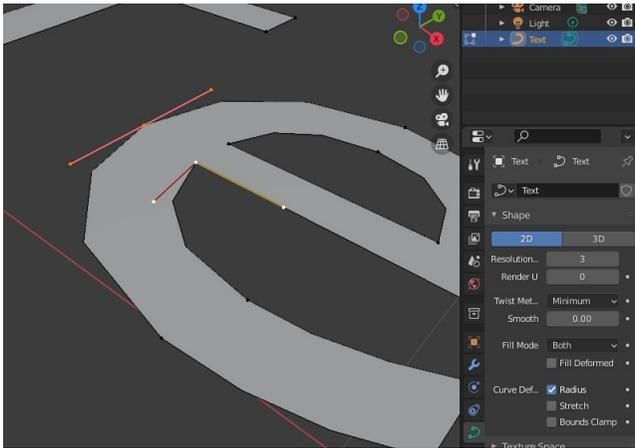

Figure 3-1 Editing Curves
1. Start Blender and delete the default cube. then select **Add ▸ Text** which will create a Text object with the word "Text", notice that the icon in the Outliner Editor is a letter "a". Convert the text with **Object ▸ Convert ▸ Curve** which will appear to do nothing but the icon in the Outliner Editor will have changed to a curve. Switch to Edit mode and select the Object Data Properties tab which looks like a green curve connecting two little squares, visible at the bottom of Figure 3-1.
3. To see how the curve is controlled by the different types of control point, select a control point in the middle of a curve then select a different one at a sharp corner, such as the ones selected in Figure 3-1. You will see that handles (the lines controlling the shape of the curve) are different colors: pink is used for Aligned which is the default type, red is Free and yellow is Vector, you can change the handles using **Control Points ▶ Set Handle Type**.